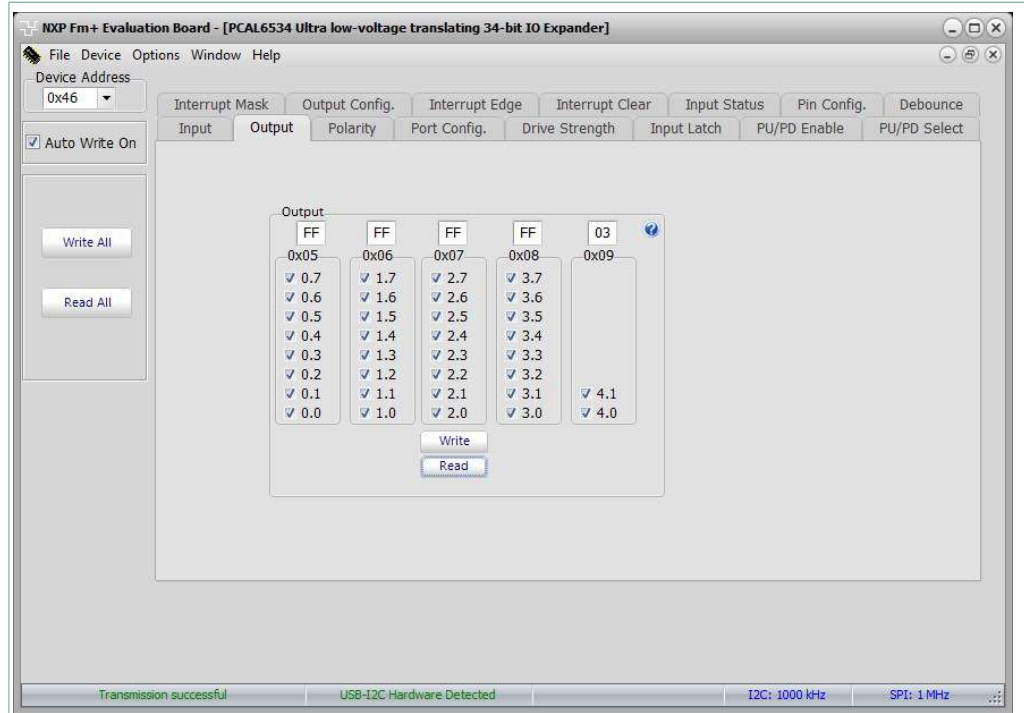

Figure 11. Device configuration screen for registers 05-09 hex
- Output registers read or write are shown in Figure 11.